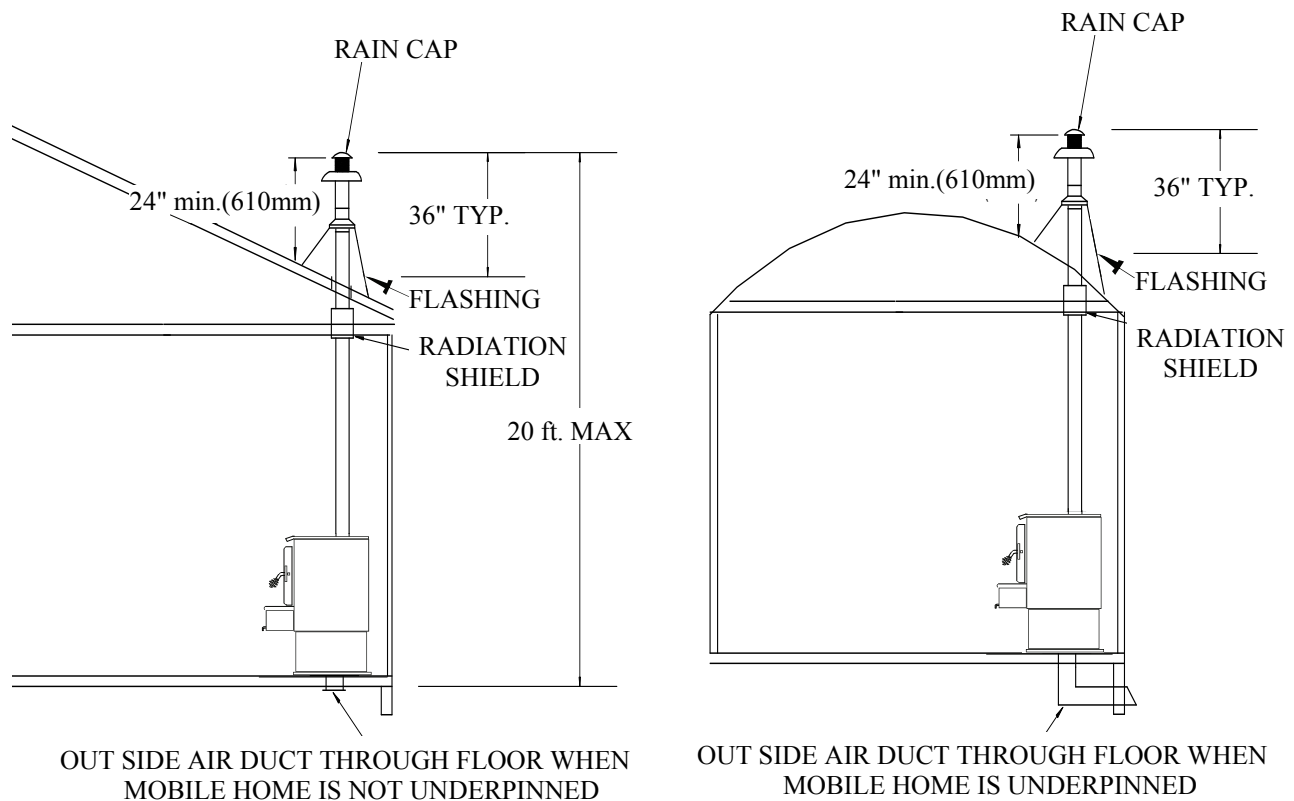

Figure 19
15. Secure the outside air duct to the floor using the four (4) #10x1 screws provided. (See Figure 19.)